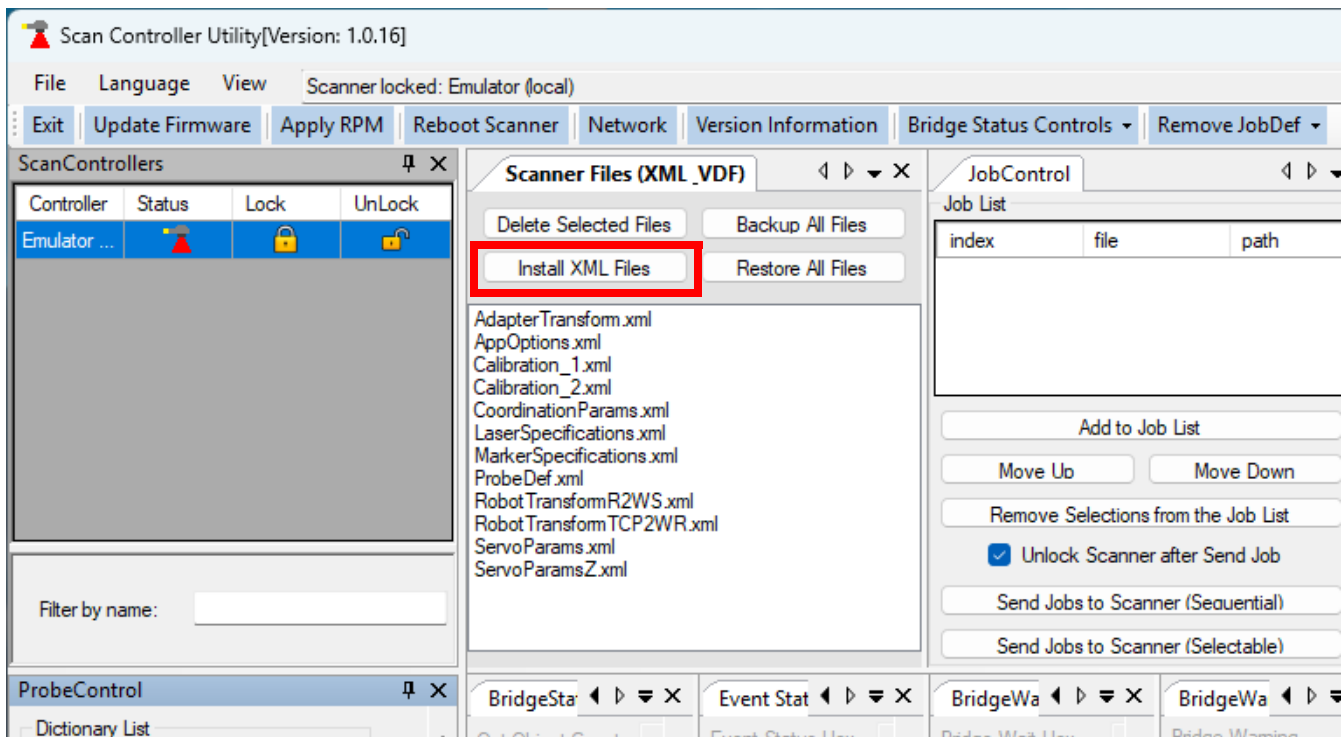

Figure 227: Installing an XML File
2. Click the "Install XML Files" button. See Figure 227 (below).